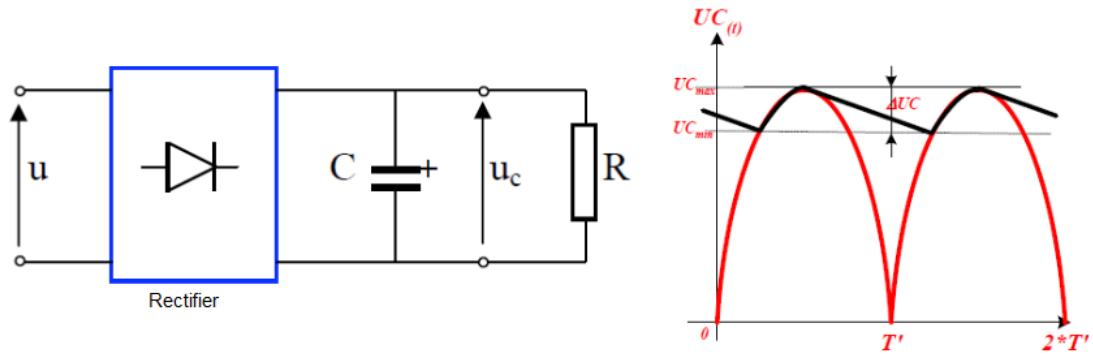

Figure 3: Circuit for filtering a rectified voltage.
- Set up the circuit as shown in Figure 3, using a 2V amplitude source and a 1kHz frequency.